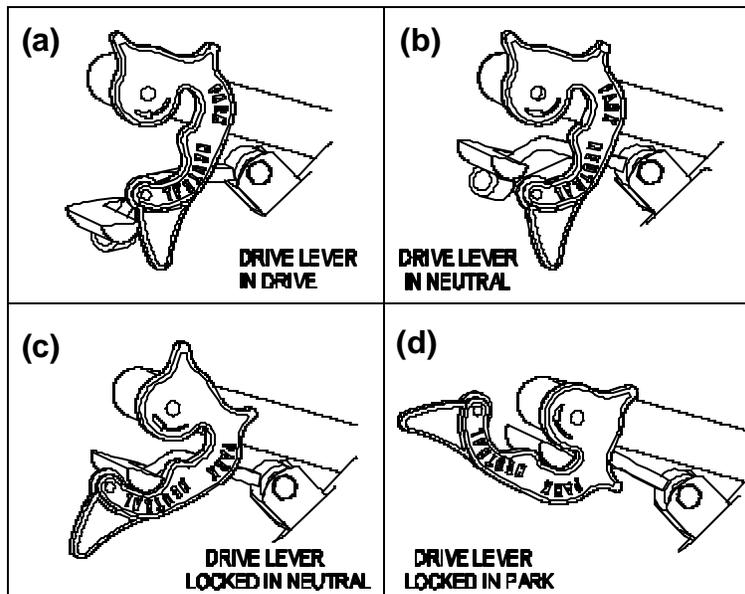

FIGURE 17
- 3.14 Adjust brakes by adjusting wingnut on the upper end of each brake rod. Tighten the wingnut until the brakes engage when the drive levers are squeezed enough to allow the neutral lock/park brake latches to be placed into the “park brake” position. See Figure 17.
For ECS Handles: To lock the drive levers in “**neutral lock**”, squeeze the drive levers to the “neutral” position. See Figure 17 (b). Place thumbs on the inner thumb lobe of the neutral lock /park brake latches and rotate them to the “neutral” position. See Figure 17 (c). Release the drive levers.
To lock the drive levers in “**park brake**”, squeeze the drive levers farther to the “brake” position. Place thumbs on the inner thumb lobe of the neutral lock/park brake latches and rotate them to the “park” position. See Figure 17 (d). Release drive levers.
To place the drive levers in the “**drive**” position, slightly squeeze the drive levers while placing thumbs on the outer thumb lobe of the neutral lock/park brake latches (or the index finger on the front lobe) and rotate them from under the drive levers. **Slowly** and **carefully** release the drive levers. See Figure 17 (a).